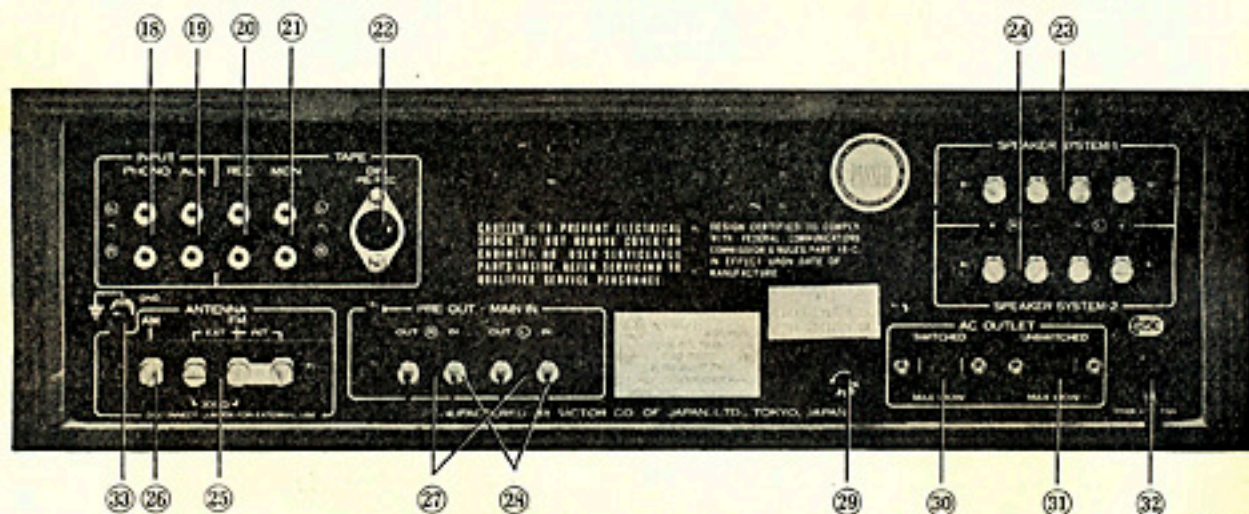

Fig. 5
1. Plug in the power cord — see (32) in Fig 5
2. Set the tape monitor switch (5) to the "Out" position.
3. Set the mode switch (6) to the "Stereo" Position except when playing a monaural record. In that case, set the switch to the "mono" position.
5. Set the select knob (4) to the "Phono" position.
6. Turn the sound volume control knob (3) clockwise.
8. Knobs (3) and (2) control the sound volume. To increase the volume, turn knob (3) Right. To decrease sound, turn Left. To balance sound volume between left
- and right channels, use the sound volume balance knob. (2) A clockwise turn will increase the volume in the right channel and a counter-clockwise turn will increase the volume in the left channel. To obtain a balanced and comfortable soft sound, turn the loudness switch (7) to the "loudness" position. This automatically controls the sound volume.
9. Adjust knobs (10) (11) (12) (13) and (14) to get the precise sounds you prefer. See the "SEA System Control" for details.
1. Connect the recording-reproducing cord between the recording-reproducing terminal under the DIN standard (22) in Fig 5 and the DIN terminal of the tape recorder.
3. If a stereo tape recorder is used, set the mode switch (6) to "Stereo." If a monaural tape recorder is used, set the switch to "Mono."
4. If you are recording an FM broadcast, set the select knob (4) to FM. If it is an AM broadcast, set the knob at "AM."